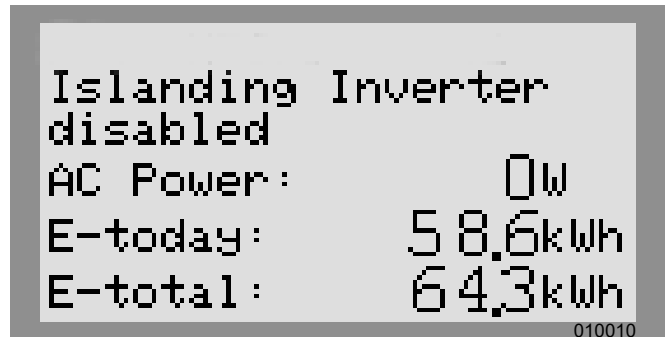

Figure 6-6. Enabling Inverter (1 of 4)
- See **Figure 6-6**. Use the right arrow key to scroll the inverter device page.